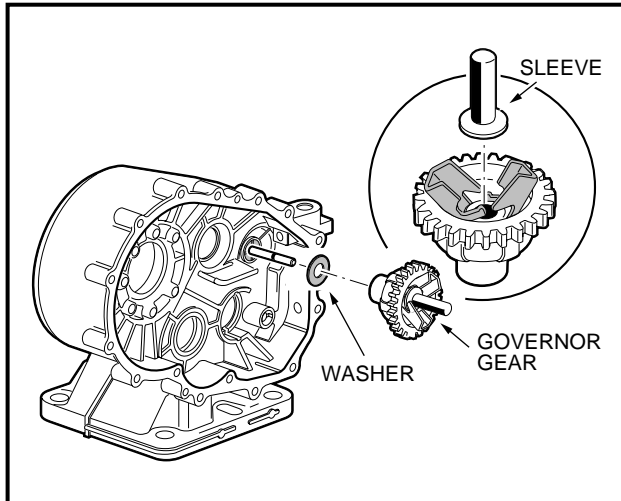
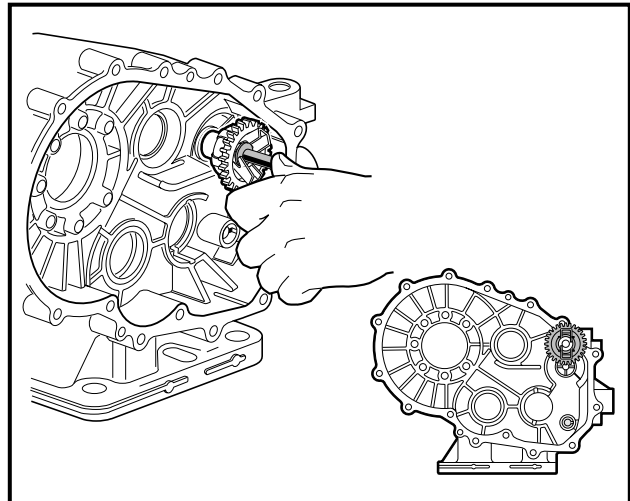

Figure 16-77 Position Governor Gear
Figure 16-78 Install Governor Gear
4. Install the washer, governor gear, and sleeve together onto the governor shaft (**Figure 16-77, Page 16-33**). Make sure the sleeve is properly positioned within the flyweight brackets of the gear as shown (**Figure 16-78, Page 16-33**), and then push them onto the shaft until the gear snaps into the groove on the shaft.